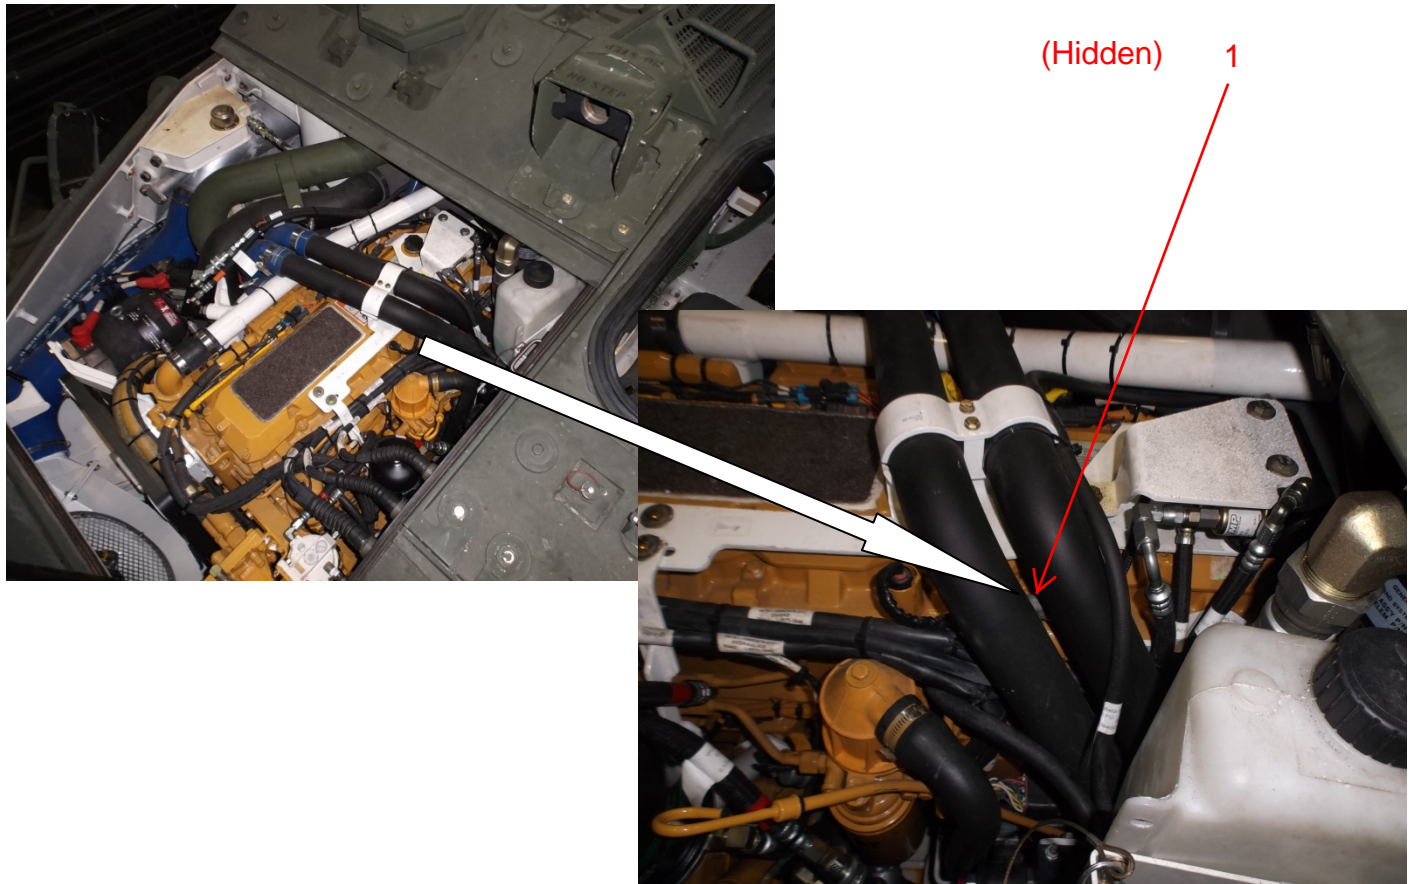

Figure 1. Flat Bottom 3126 W441 P7.
2. Disconnect P7 of W441 (Figure1, Item 1) from On Board Oil Exchanger (OBOE) Controller connector.